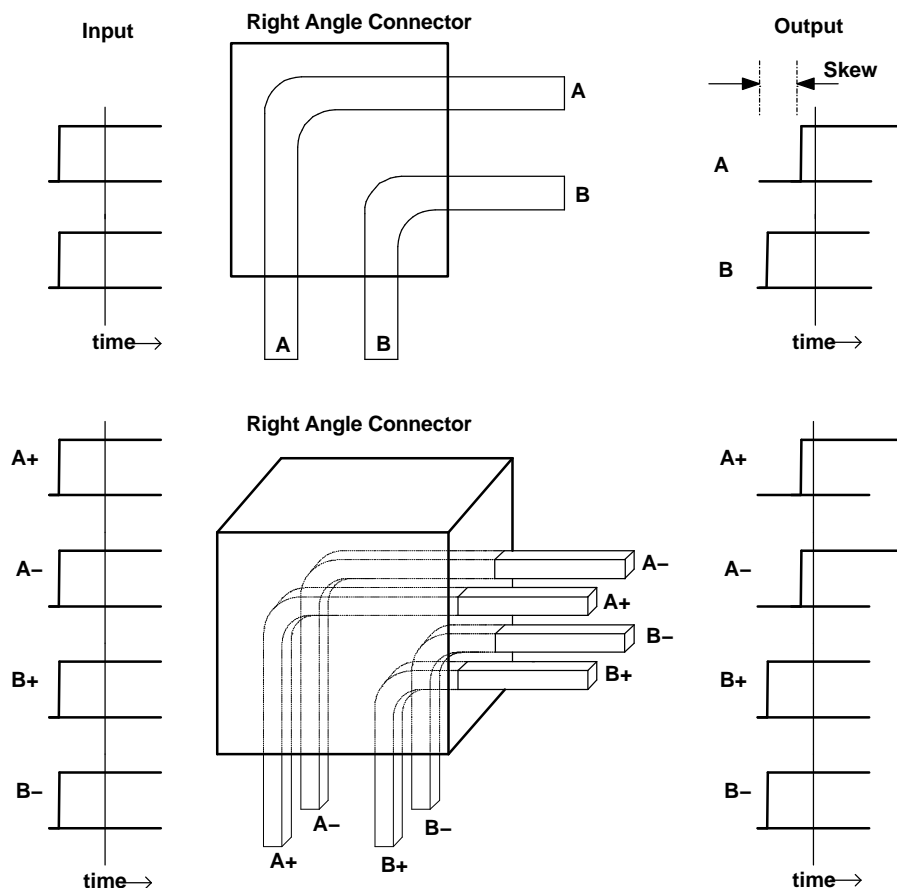

Figure 6. Skew in Right Angle Connectors
Skew is another potential problem in high-speed interconnects, and the connector can be easily overlooked. Conductor-to-conductor skew is seen in angled connectors where some conductors are physically longer than others. The difference in length poses a pitfall to differential signals that must maintain balance within a differential pair. Figure 6 shows the skew induced in a right angle connector due to the different distances traveled by the inner (B) and outer (A) signals. From a timing standpoint, this skew is usually negligible (on the order of tenths of a percent of the unit interval), but the imbalance can result in an increased amount of radiated emissions. Figure 6 also shows an example of how to orient differential signals to minimize skew within the differential pair. Vendors have made connectors especially for differential signals with almost no skew within the differential pair and a minimal amount between pairs.